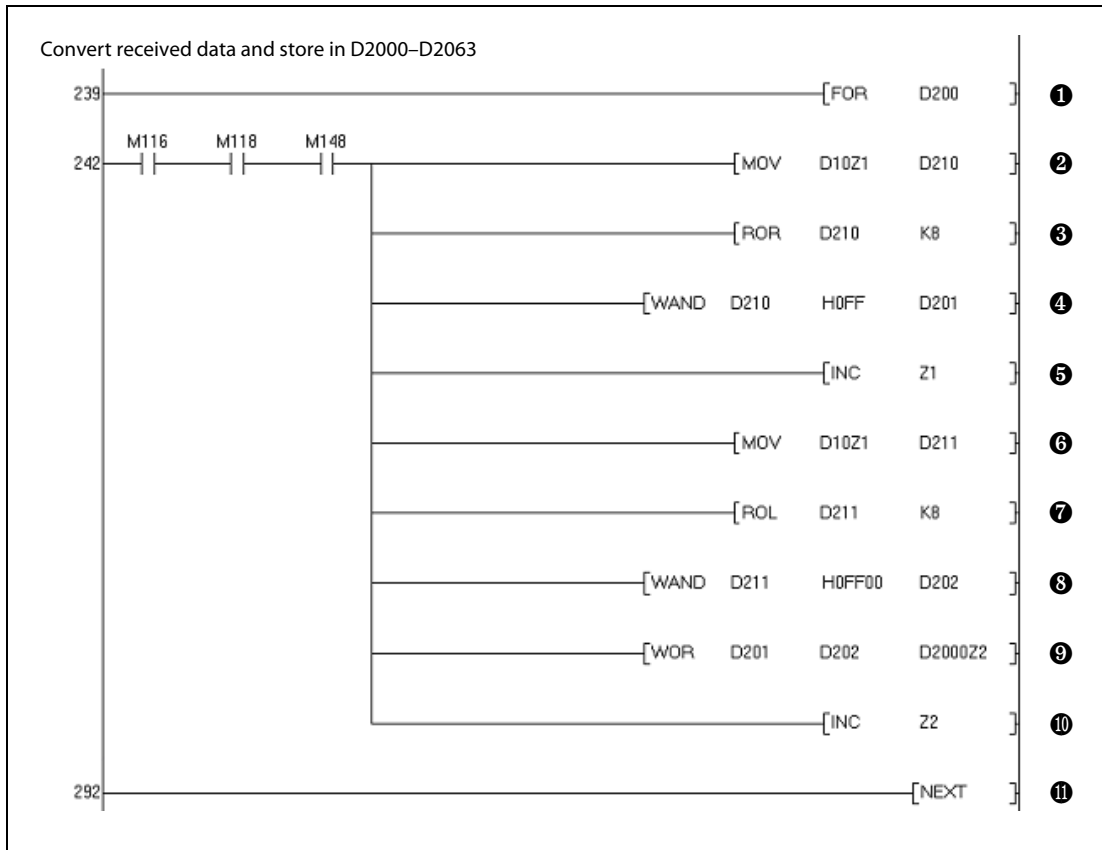

Fig. 5-15: Ladder program (3)
②	Split value
③	Rotate data right
④	WORD AND with hex FF
⑤	Increment Z1
⑥	Split value
⑦	Rotate data left
⑧	WORD AND with hex FF
⑨	Store converted value
⑩	Increment Z2
⑪	Next command
Tab. 5-10: Description of the ladder program (3) in fig. 5-15